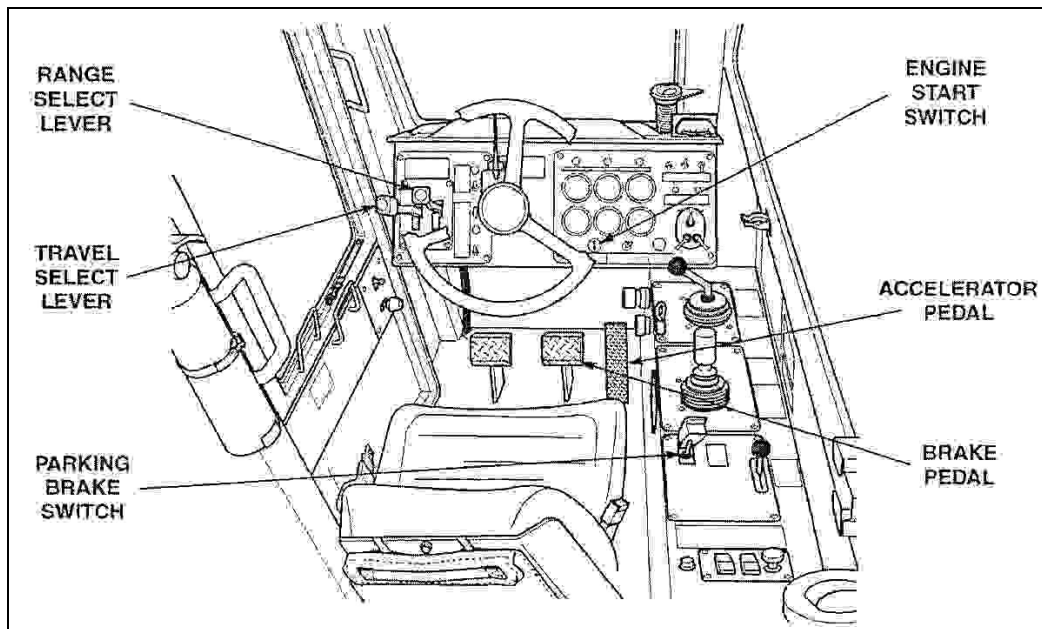

Figure 3-50. Starting Engine
1. Start the engine (see Figure 3-50).